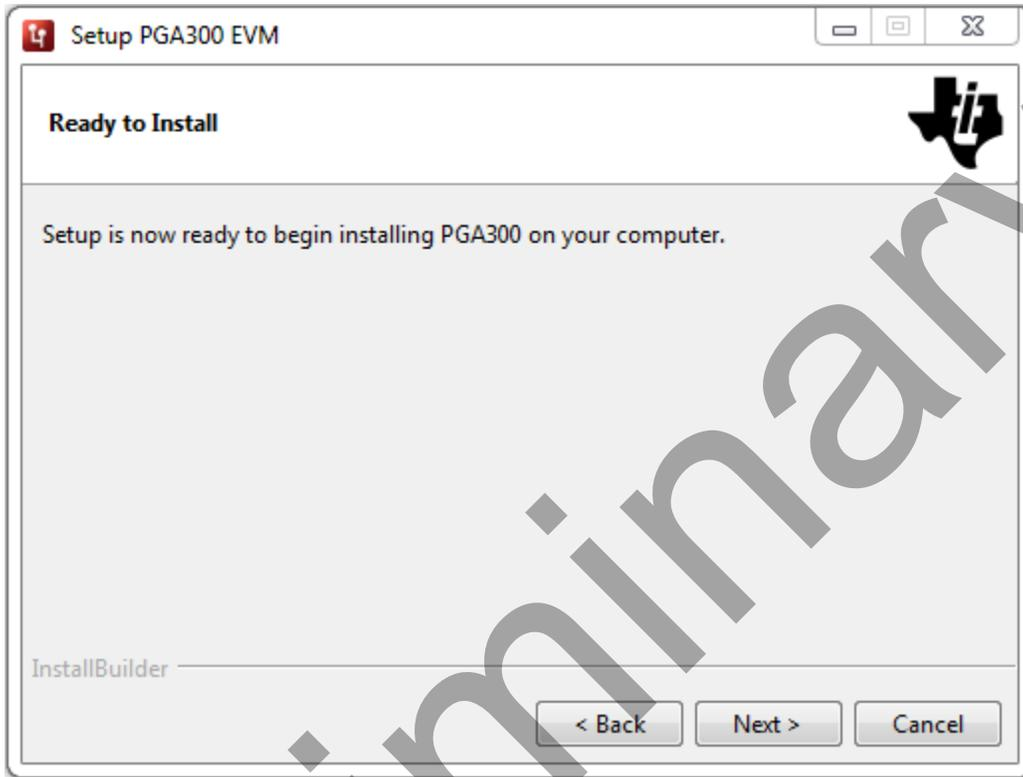

Fig 6: Start Installation
4. A screen as shown in *Fig 6: Start Installation* will appear. Click **Next»** to begin installation.